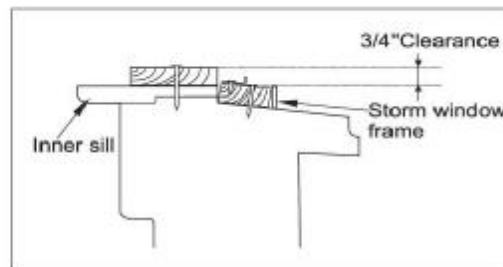

Fig.8
7. If storm window presents interference, fasten a 2" wide wood strip to the inner window sill across the full width of the sill. The wood strip should be thick enough to raise the height of the window sill, so that the unit can be installed without interference from the storm window frame, as shown in Fig. 8. Top of wood strip should be approximately 3/4" higher than the storm window frame to help condensation to drain properly to the outside. Install a second wood strip (approximately 17" long by 1 1/2" wide and same thickness as first strip) in the center of the outer sill flush against the back of the inner sill. Screw the L brackets into this strip, this will raise the L bracket as shown in Fig. 8.